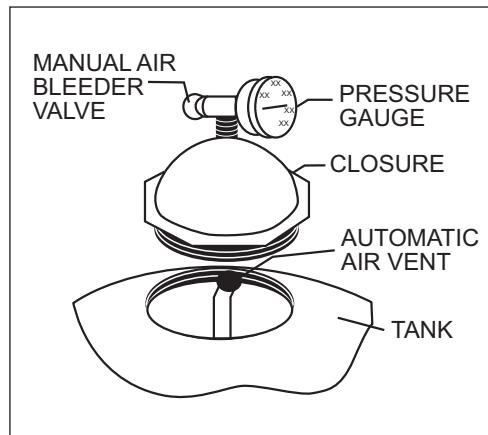

Figure 1.
- Pivot the diffuser out of the center of the tank on the TR40, 60, TR60 ClearPro, 100 & 140 by rotating the diffuser assembly counter clockwise. (**NOTE:** The multi-diffuser assembly should not be moved on models TR100HD, TR100C, TR100C-3 and TR140C, TR140C-3. After installing the filter media as described below, check to make sure the tops on the diffusers are parallel to the top of the sand bed.) Fill the tank about half full of water. Pour pea gravel first (if used) and then the sand into the top of the filter at a slow rate so that the impact of the filter media does not damage the laterals. See Table 2 for the proper amounts of sand and gravel. Fill filter to the proper level to maintain freeboard, as shown in Table 2. Pivot the diffuser assembly back to its vertical position if it was moved. Be certain the automatic air vent is protruding into the top of the closure as indicated below in Figure 1. Ensure that the automatic air vent is in the center of the filter closure. Wash away all sand around the threaded opening at the top of the tank.